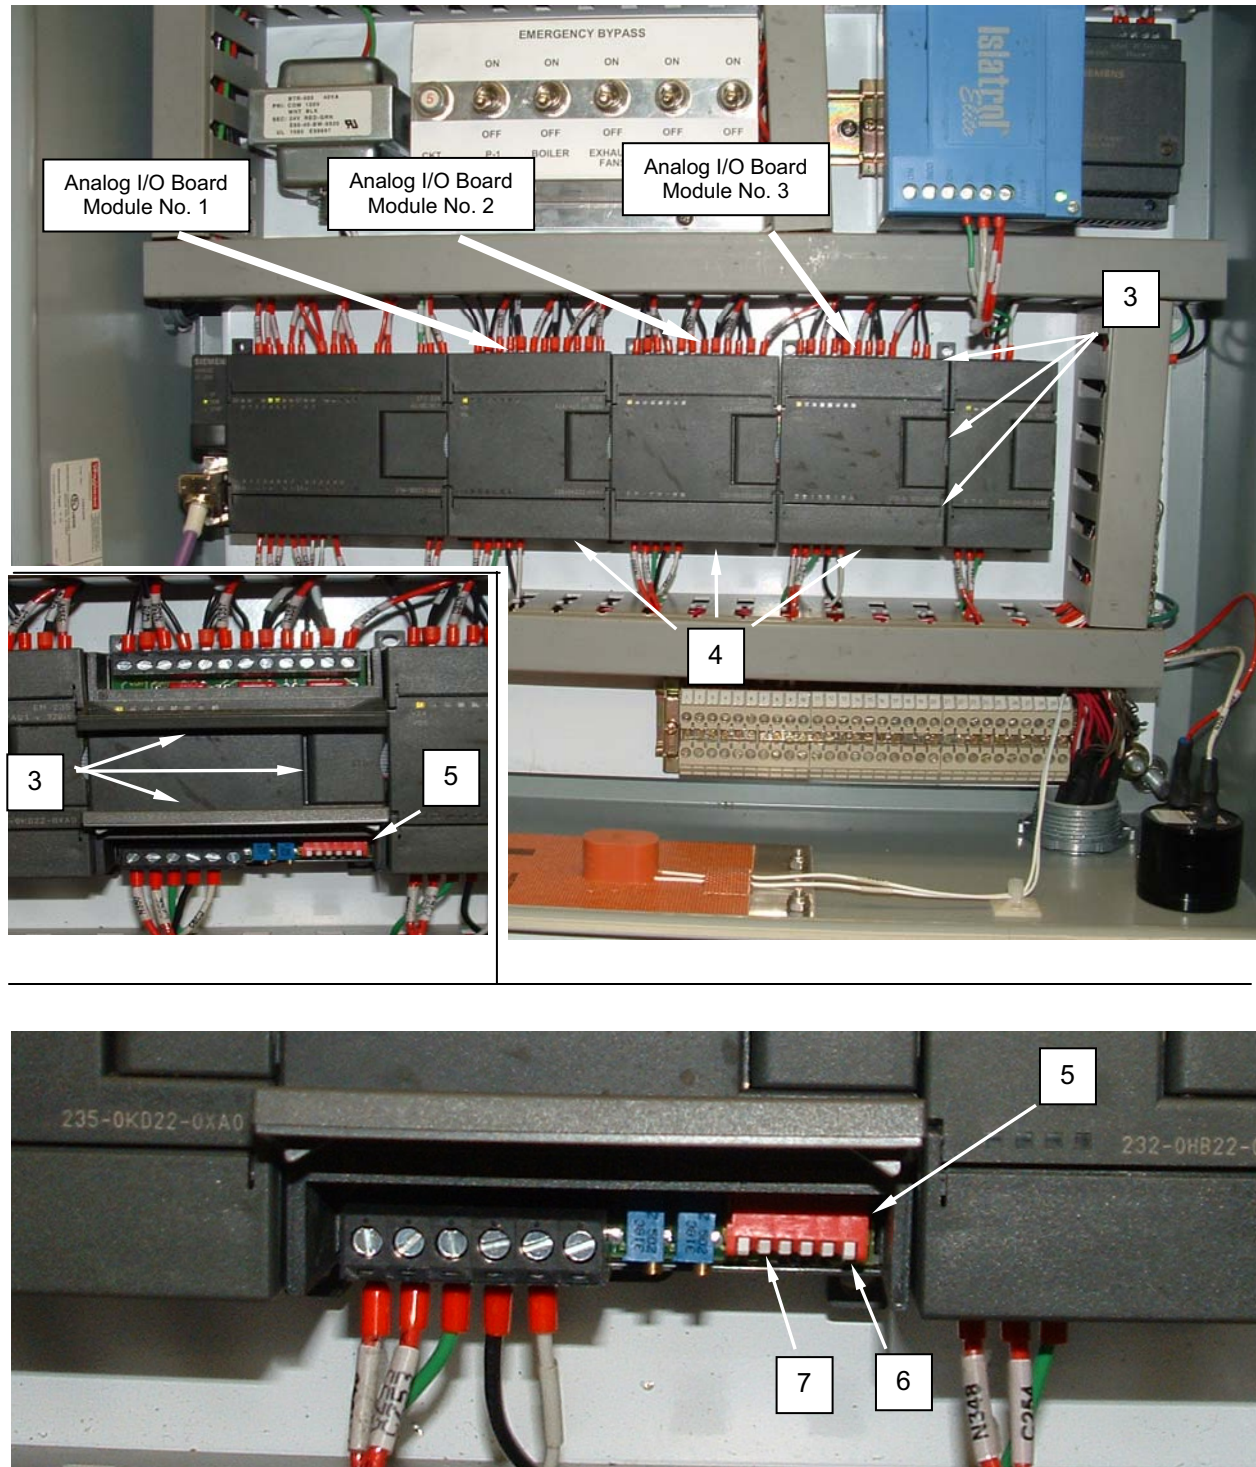

Figure 3. Replace Analog Input/Output Module.
3. Release the connection cover flaps (**Figure 3, Item 3**) on both the existing module (**Figure 3, Item 4**) and the replacement module.
4. Tag and disconnect wiring from module (**Figure 3, Item 4**).
5. Remove analog input/output module (**Figure 3, Item 4**).
6. Install replacement module (**Figure 3, Item 4**).
7. Connect wiring to replacement module (**Figure 3, Item 4**) as tagged.
8. Set the DIP switches (**Figure 3, Item 5**) with the two outside switches (**Figure 3, Item 6**) OUT, and the four inside switches (**Figure 3, Item 7**) IN as shown in Figure 3.